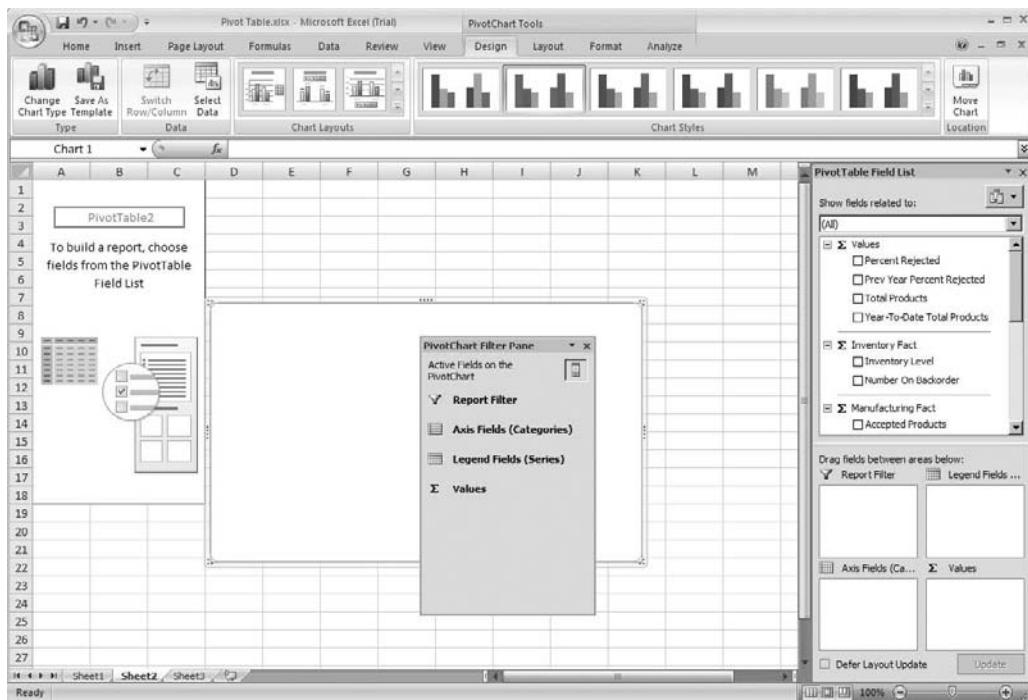

Figure 19-18 An empty pivot chart
7. Click OK to exit the Create PivotTable with PivotChart dialog box. An empty pivot chart is created, as shown in Figure 19-18.